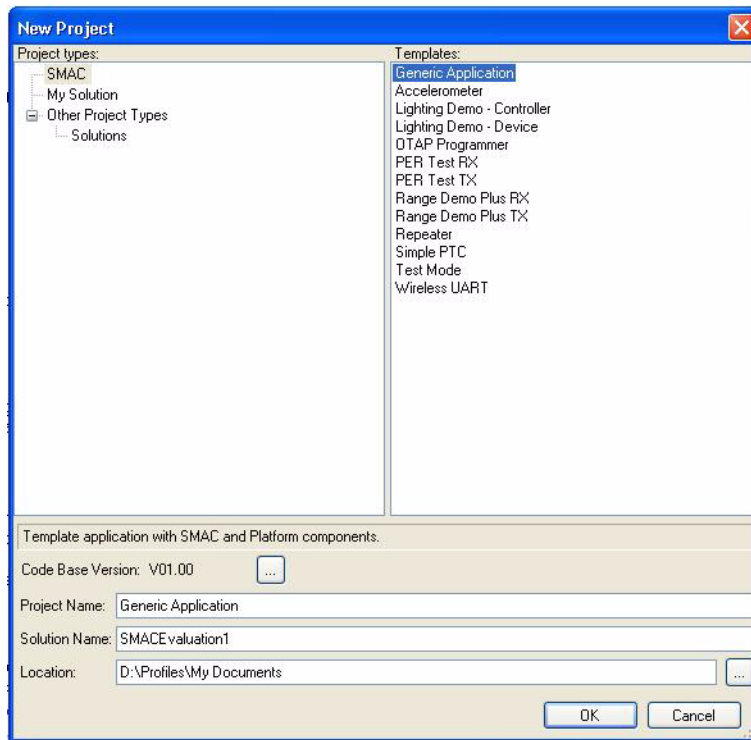

Figure 4. Creating a new project
3. Create a new project as shown in Figure 4.